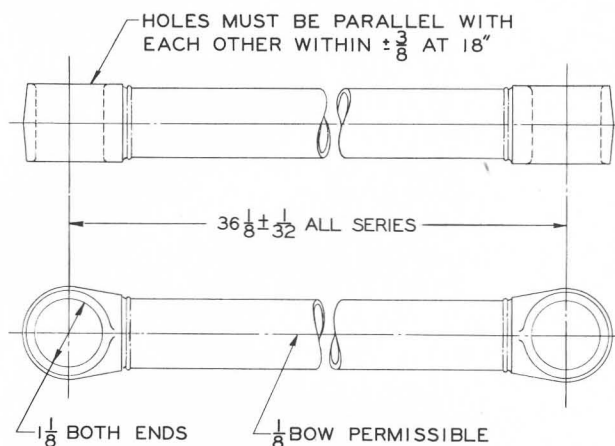

Figure 6-29—Radius Rod Dimensions
3. Check radius rod for twist and bow, which should be within limits shown in figure 6-29. If rod is twisted or bowed it must be straightened *without heating*; otherwise, replace with a new part.